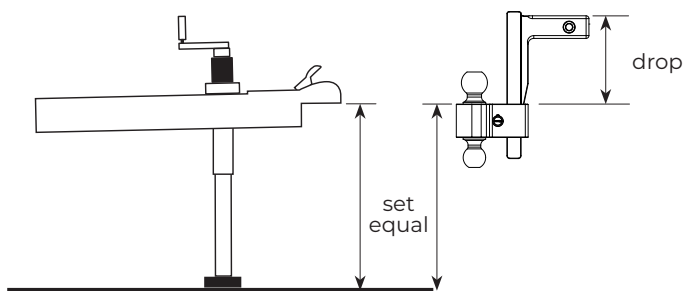

Figure 1
- Measure from the ground to the bottom of the coupler on the trailer, then lock the ball holder into place on the drop bar at that height by rotating the key counterclockwise 1/2 turn then sliding the ball holder up or down until the spring-loaded pin pops into the desired adjustment hole. Then rotate the key counterclockwise an additional 1/2 turn to fully engage the locking pin into the drop bar. (Figure 1)